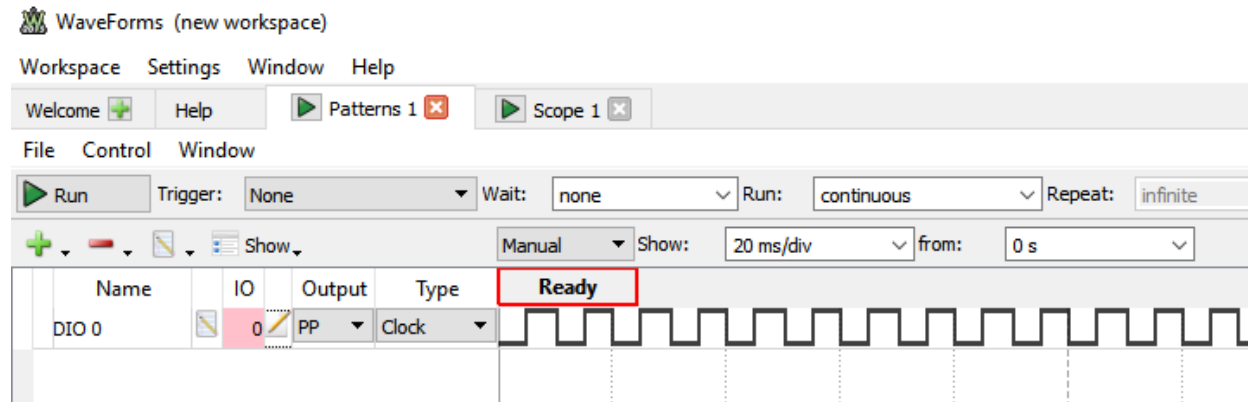
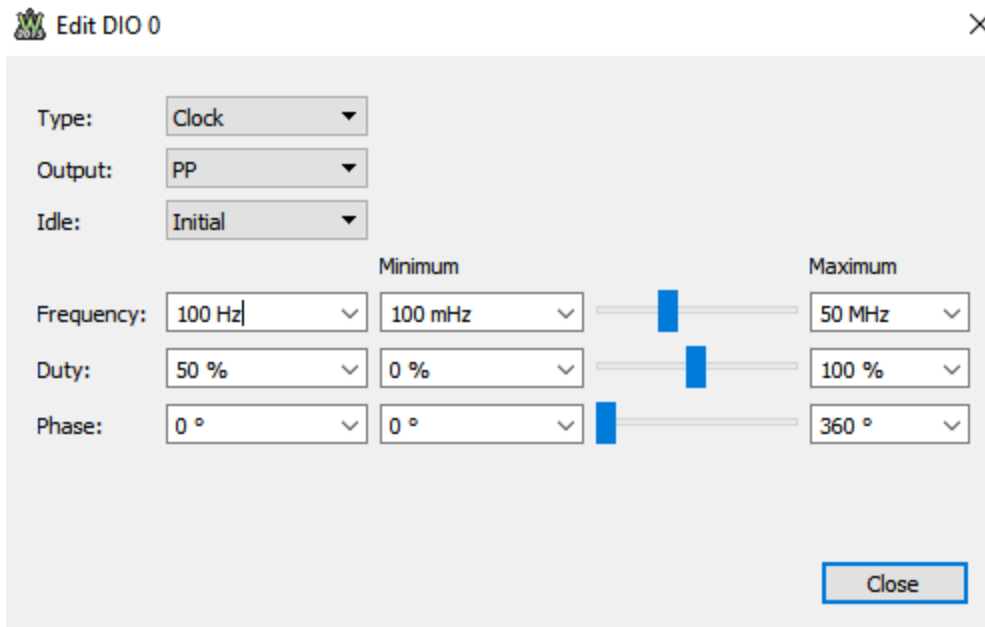

Figure D-2
Figure D-3
9. Click to add a channel. Add a Signal and Add DIO 0. For Output choose Push-Pull (PP) and for Type choose Clock. Your display will not look like Figure D-2 because you still have to select the frequency. To do this, click on the little pencil icon to the left of PP and you will see the window shown in Figure D-3. Set the frequency to 100Hz. Then your Patterns window should look like Figure D-2.